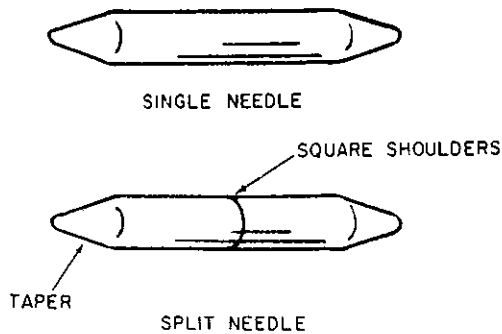
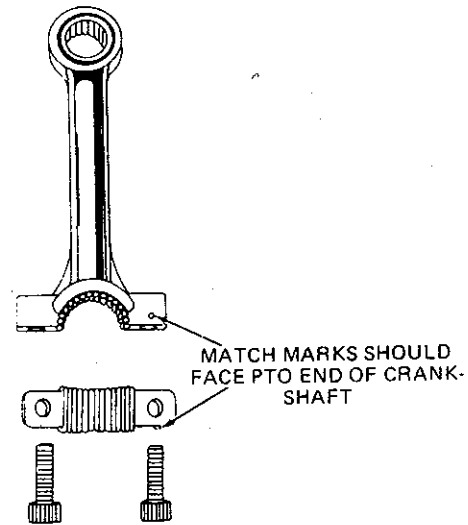

Figure 30
Figure 31
- Split needles are to be installed with blunt ends together and tapered ends towards the outer end of the journal. (See Figure 30.) Wrap each row of needles around journal and try to seal together with gentle but firm pressure to keep bearings from unwinding.
- e: Place connecting rod onto journal, position rod and cap with match marks toward P.T.O. end, then secure with cap screws. (See Figure 31.) Torque to specifications listed in ENGINE TORQUE LIMIT table.
- (2) Old needle rollers have worn into the races and should not be mixed or wear will be exaggerated. To reassemble rollers of used bearing be sure to account for each bearing then proceed as follows:
- d. Blunt ends of split rollers are installed together toward center of crankshaft journal. (See Figure 30.)